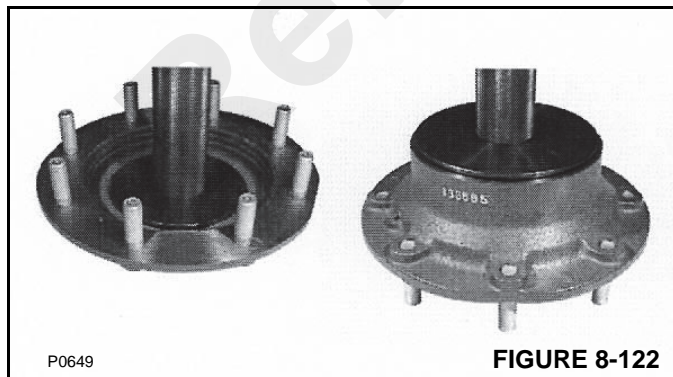

FIGURE 8-122
- Place the wheel hub on a workbench and install the two taper roller bearing cups with SPECIAL TOOL P/N 1901774 and a press or hammer (Figure 8-122).